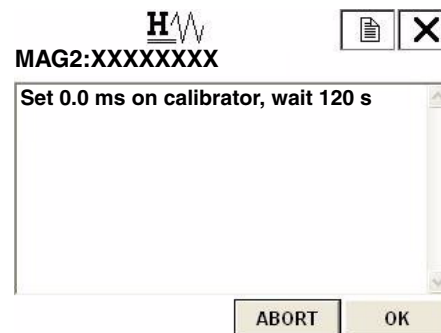

Figure 116.
4. Figure 116 then appears. Set the connected calibrator value to 0.0 m/s and then press F4 (OK).